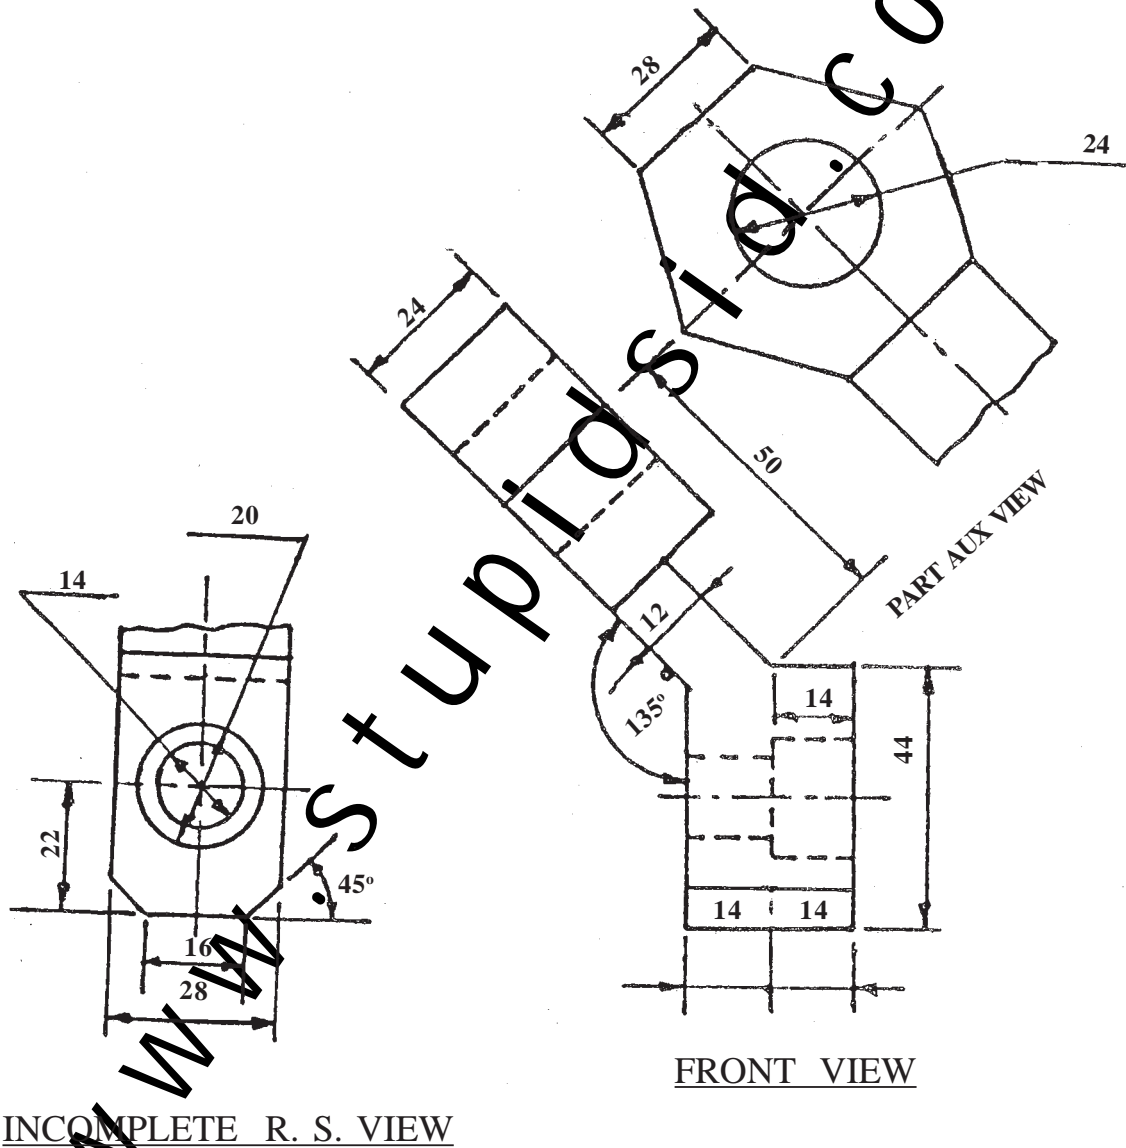

Fig. 4
Q.6) Fig. 4 shows elevation, incomplete right hand side view and partial auxiliary view of an object :